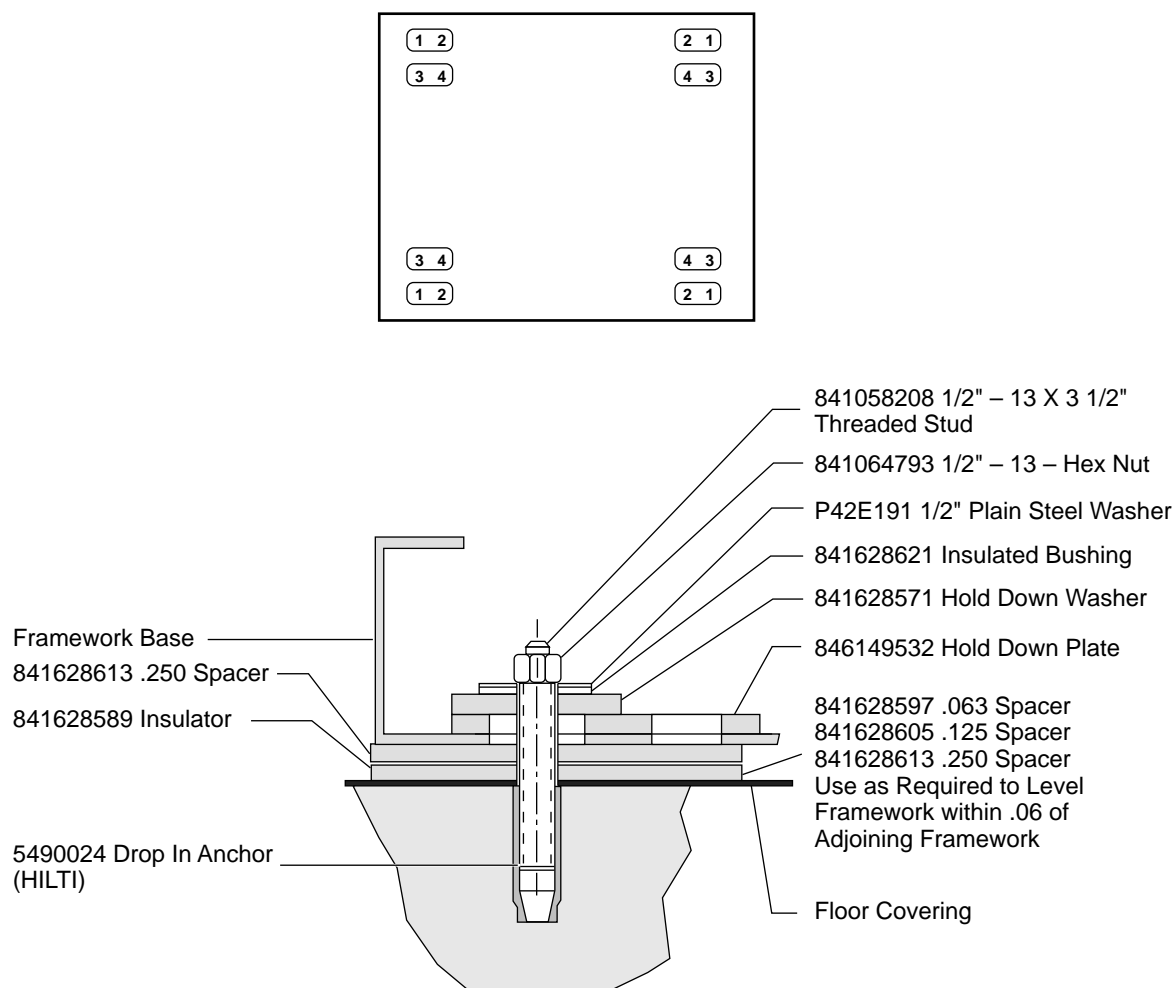

FIGURE 2-11. CO Frame Anchors
Refer to Figures 2-11 and 2-12 during this procedure.
6. Using the dollies, move the frame to its final position and lower it to the floor. Remove the dollies. Anchor the frame. The hold down and insulator arrangement is shown in Figure 2-11.